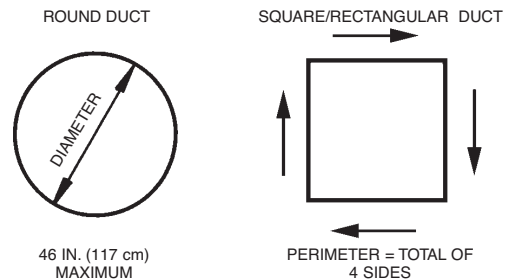

Figure 3-2b.
1. The maximum duct perimeter is 12 ft (3.7 m). See Figure 3-2b. **Note:** Longest side of a square or rectangular duct cannot exceed 36 in. (91 cm).